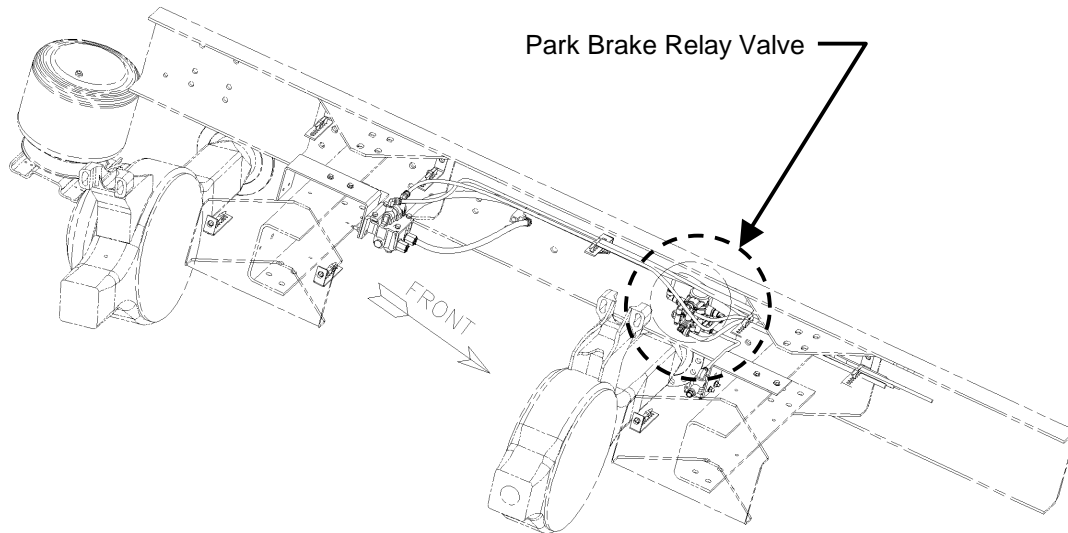

Figure 1 – Approximate Frame Location of Park Brake Relay Valve
2. Locate the park brake relay valve (see figure 1) and disconnect the 1/2" orange tube from park brake relay valve that contains the standard fitting.